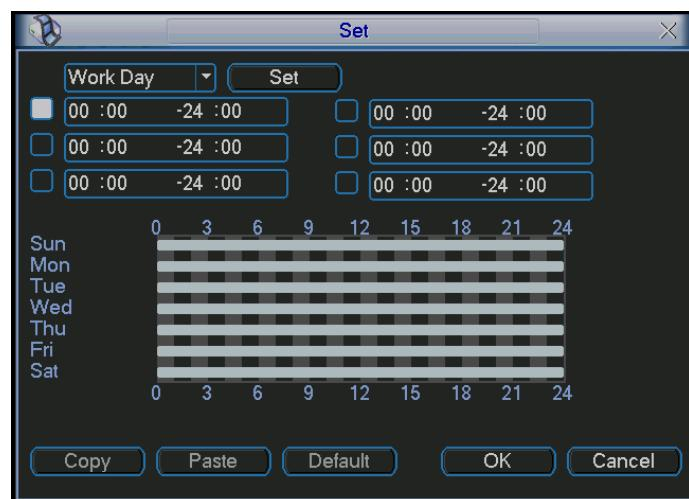
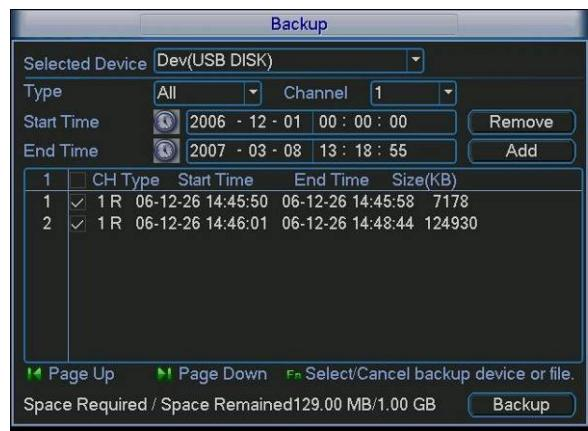
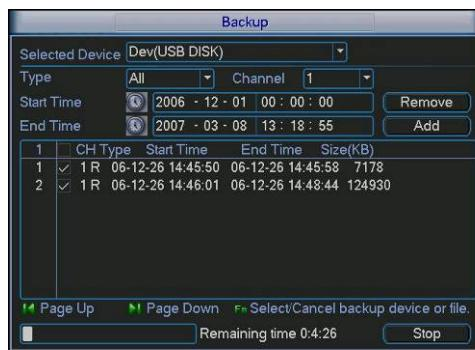

Figure 4-22
Figure 4-25
Figure 4-26
- PTZ activation: Here you can set PTZ movement when alarm occurs. Such as go to preset, tour& pattern when there is an alarm. Click “select” button, you can see an interface is shown as in Figure 4-26.
- Period: Click set button, you can see an interface is shown as in Figure 4-22. Here you can set for business day and non-business day. In Figure 4-25, click set button, you can see an interface is shown as in Figure 4-26. Here you can set your own setup for business day and non-business day.
System automatically calculates the capacity needed and remained. See Figure 4-25.
Click backup button, system begins burning. At the same time, the backup button becomes stop button. You can view the remaining time and process bar at the left bottom. See Figure 4-26.